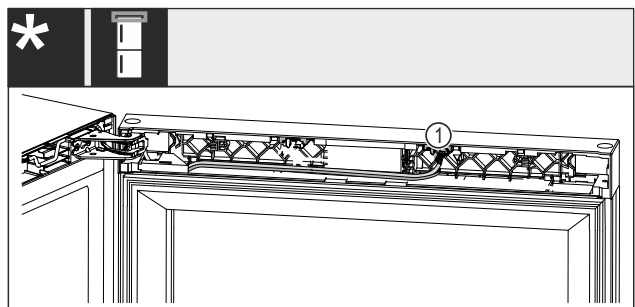

Fig. 23 Wine-freezer combinations\*
- Pull the plug Fig. 23 (1) out of the retaining clip.\*